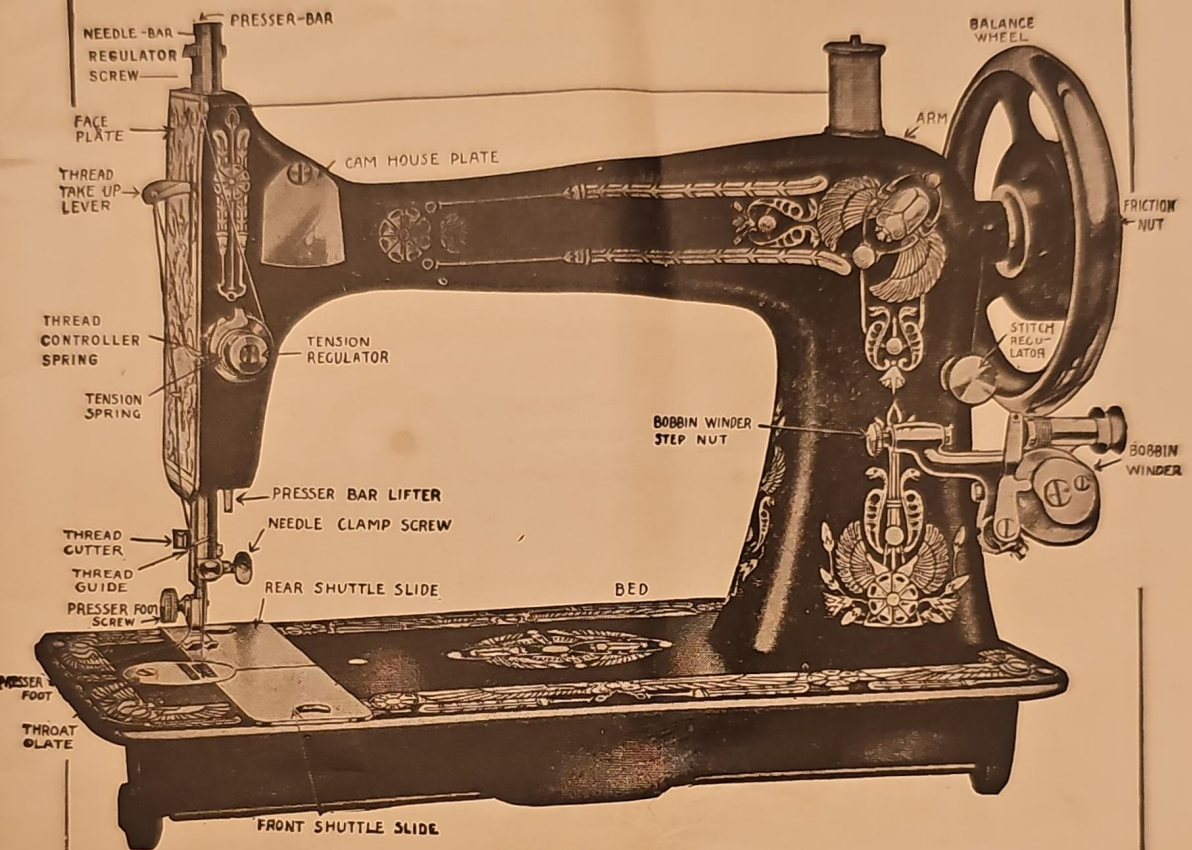

Figure 1.
**TO CHANGE THE PRESSURE OF THE PRESSER FOOT ON THE MATERIAL.** Turn the large regulator screw (see Figure 1, page 4) at the top of the arm directly over the presser foot to the right to make the pressure heavier, or to the left to make it lighter. The pressure should be **ONLY** heavy enough to **PREVENT** the **MATERIAL RISING** with the needle and to insure that the feed moves the work along evenly; a heavier pressure would make the machine run harder and be of no benefit.